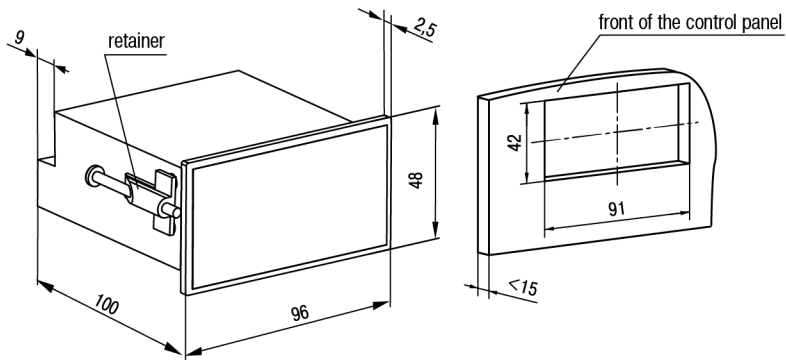

Figure 4.7 – Dimensions of $\mathbb{U}2$ housing
1. Prepare a place for mounting on the control panel (see *Figure 4.7*).